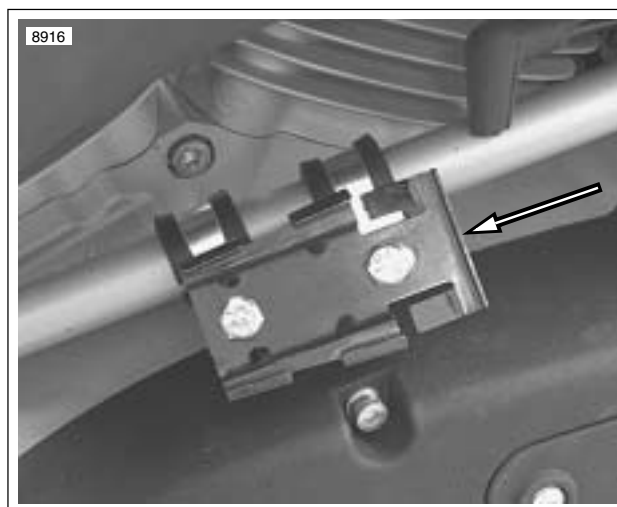

Figure 4-123. Canister Mounting Bracket
1. See Figure 4-123. Slide canister into position on canister mounting plate and push towards front of vehicle.